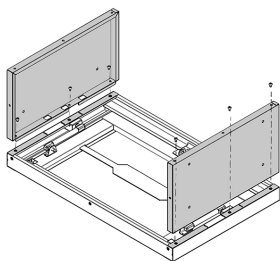

Figure 1.
1. Install the left-side panel (#4) and right-side panel (#3) onto the front panel (#2) with M4 x 10 screws (#1) (Fig. 1).